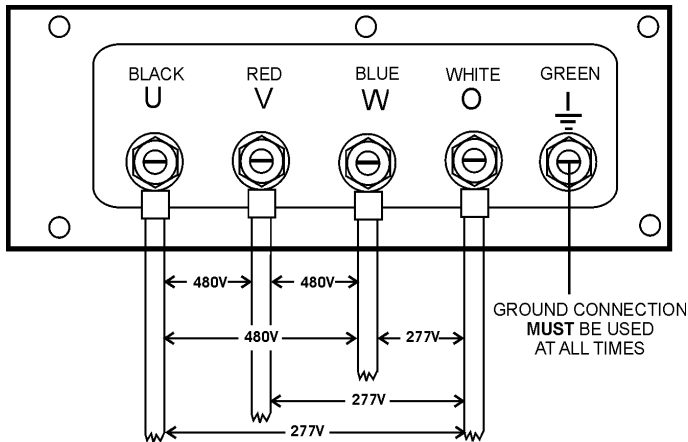

Figure 26. UVW Terminal Lugs 240/139V Three Phase Connections
2. Connect the load wires to the UVW terminals as shown in Figure 26.